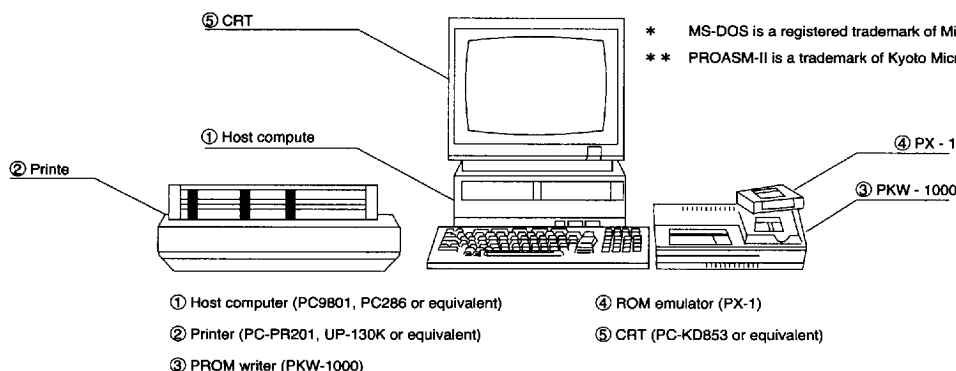

Fig. 18 Personal computer system (RDS-BU2)
The personal computer system requires the ability to run MS-DOS\* as the operating system (OS). A sample system configuration is shown for reference in Figure 18.